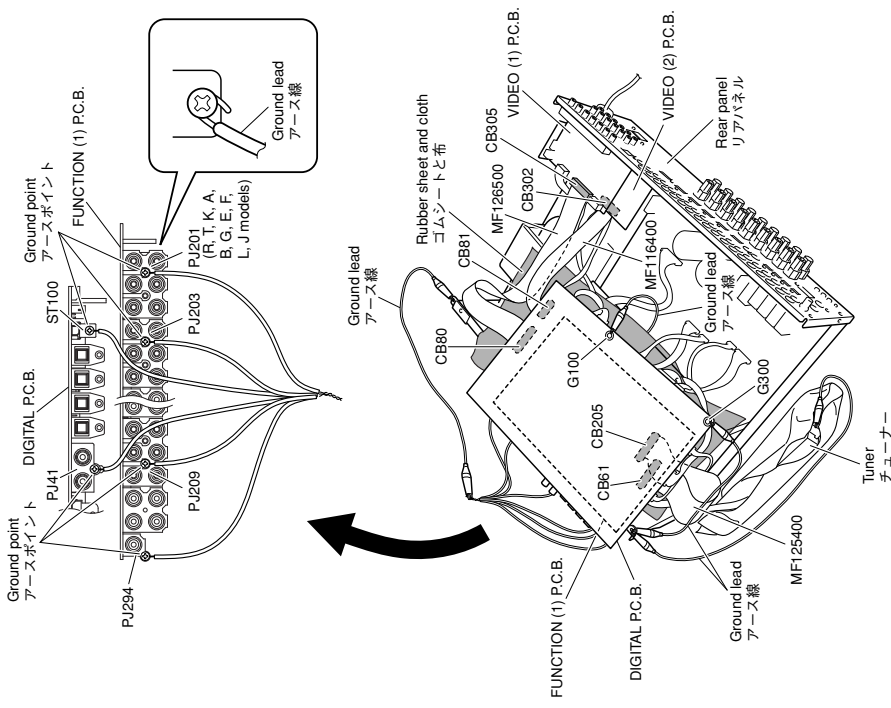

Fig. 10
- Put the rubber sheet and cloth over the equipment. Then place the FUNCTION (1) and DIGITAL P.C.B.s upside down on the cloth and check it. (Fig. 10)
- Be sure to use the extension cable for servicing for the following section. (Fig. 10)
- FUNCTION (1) P.C.B. CB205—DIGITAL P.C.B. CB61: MF125400 (25P, 400mm, P=1.25)
- DIGITAL P.C.B. CB80—VIDEO (1) P.C.B. CB305: MF126500 (26P, 500mm, P=1.25)
- DIGITAL P.C.B. CB81—VIDEO (2) P.C.B. CB302: MF116400 (16P, 400mm, P=1.25)
When FUNCTION (1) P.C.B. is removed from the rear panel and chassis, connect the ground point to the rear panel or chassis, using a ground lead or the like. (Fig. 10)
- 本機の上にゴムシートと布を敷き、その上に FUNCTION(1)P.C.B.およびDIGITAL P.C.B.を裏返しに置いてチェックします。(Fig. 10)
- 次の区間は、サービス用延長ケーブルを使用してください。(Fig. 10)
(Fig. 10)